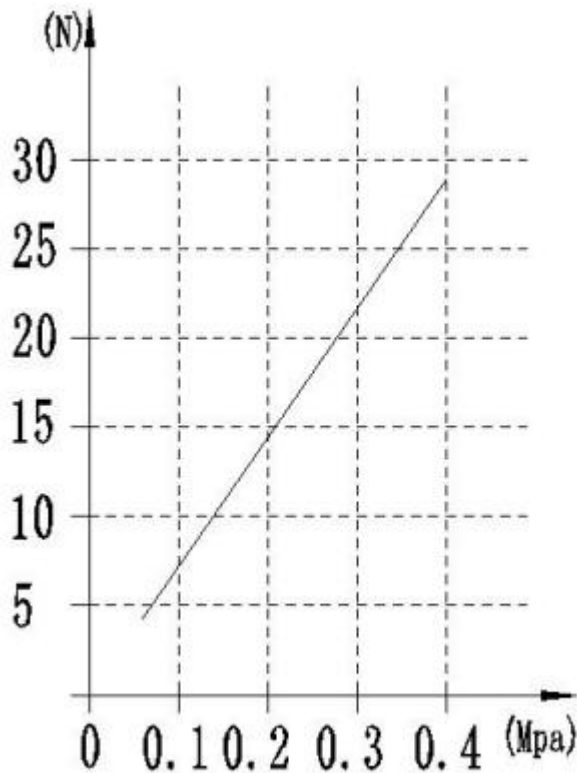

Figure 7-1 Floating force change diagram
1. The graph in Figure 7-1 illustrates the change in flotation force with applied air pressure in the vertical direction, with the chuck pointing toward the ground. The measurement may vary from 0Mpa to 0.4Mpa and converts applied pressure into floating force. Actual force characteristics depend on the installation orientation and conditions of the device. In applications where the deburring tool is mounted horizontally, applying air pressure requires overcoming the weight of the motor. The amount of floating force also depends on the material of the workpiece, the type of tool, and the amount of material being removed.